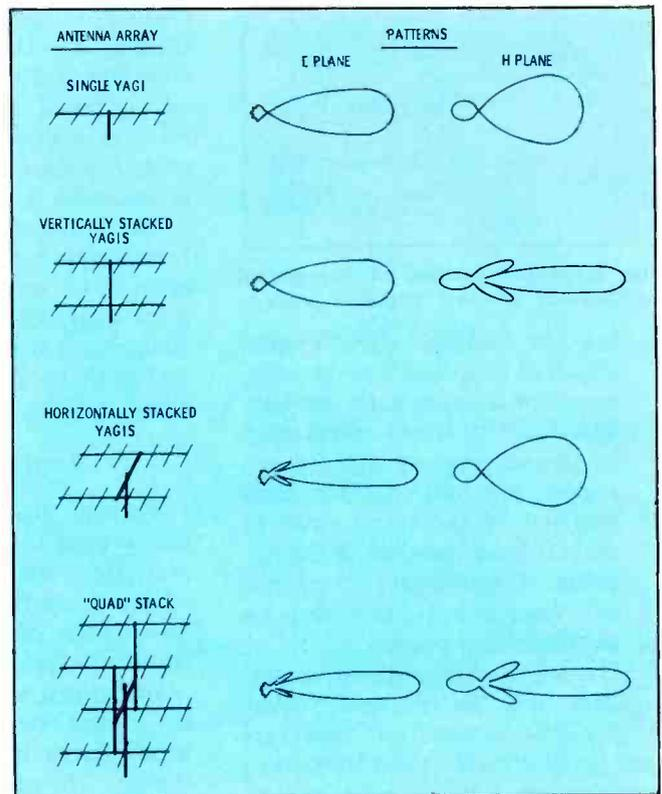

Fig. 3. E- and H-plane patterns of single and stacked yagis.
Fig. 3 compares the *E-plane* and *H-plane* reception patterns of a typical yagi with those of various stacked arrangements of antennas of the same type. Notice that vertical stacking produces narrowing of the forward lobe *only in the magnetic field*. The *E-plane* pattern remains the same. Conversely, horizontal stacking provides gain only in the electric field. If you do both (stack two antennas high and two antennas wide), you get gain in both fields. This is called a *quad stack* or a "2 x 2 array."
Stacking antennas can produce increased gain in the forward direction, but look closely at Fig. 3 and you'll see that some very sharp nulls are also created. It is by judicious use of these nulls that items 2 through 7 on the list of effects of stacking can be produced.